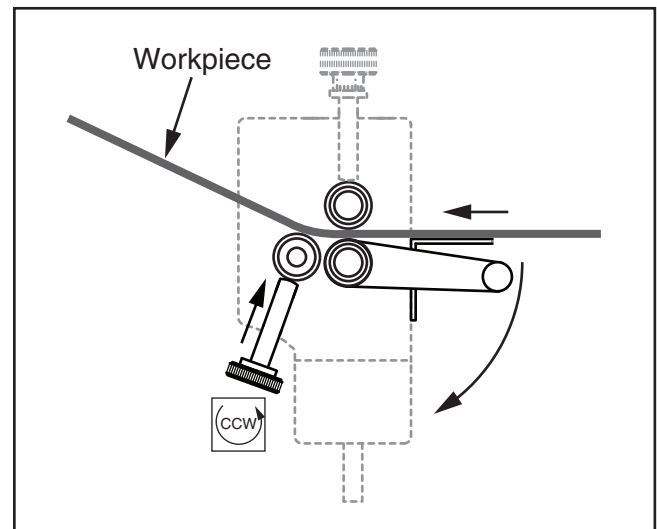

Figure 15. Initial cylinder bend.
4. Rotate the radius adjustment knobs counterclockwise to raise the rear roller for the desired cylinder radius, as illustrated in **Figure 15**.